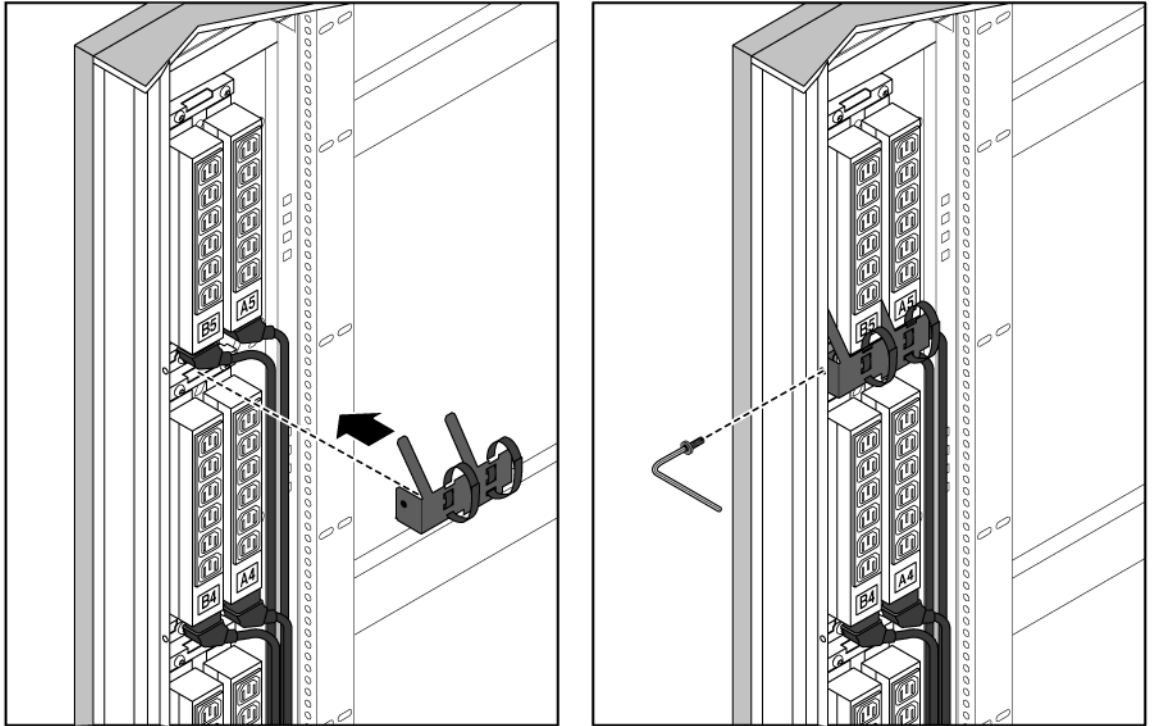

FIGURE 2-4 Installing the Power Cable Covers
b. Using a 3 mm hex screw, secure the power cable cover to the power strip bracket (FIGURE 2-4).